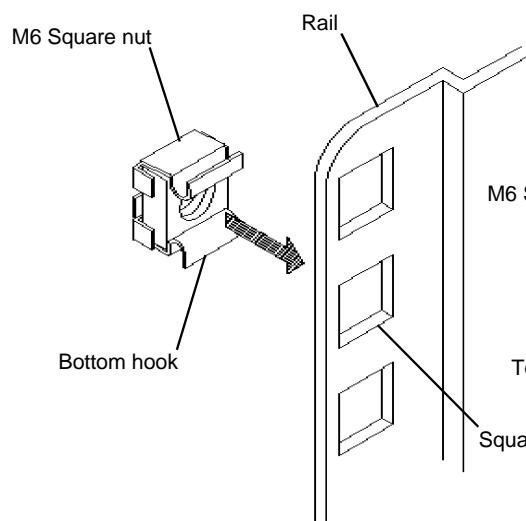

Figure 6
1. Position the **M6 Square Nut** from behind the Rail (inside of cabinet) with the bottom hook engaged over the bottom edge of the square hole. See **Figure 6**.